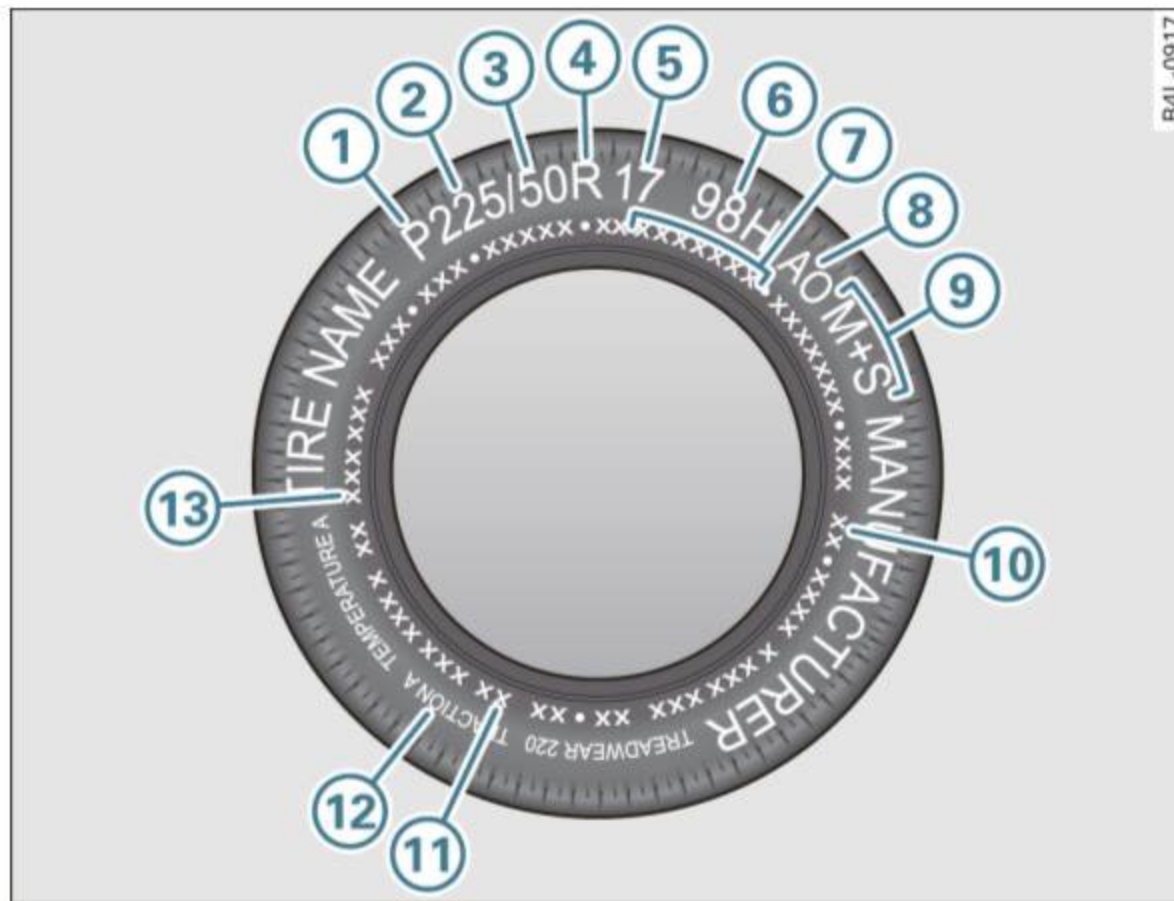

Fig. 223 Tire specification codes on the sidewall of a tire
- Check the tire sidewall (\Rightarrow page 299, fig. 223) to determine the designated load rating for a specific tire. ■
Federal law requires tire manufacturers to place standardized information on the sidewall of all tires ⇒ *page 299*, fig. 223. This information identifies and describes the fundamental characteristics, the quality grade of the tire and also provides a tire identification number for safety standard certification and in case of a recall.
Quality grades can be found where applicable on the tire side wall between tread shoulder and maximum section width ⇒ page 299, fig. 223.